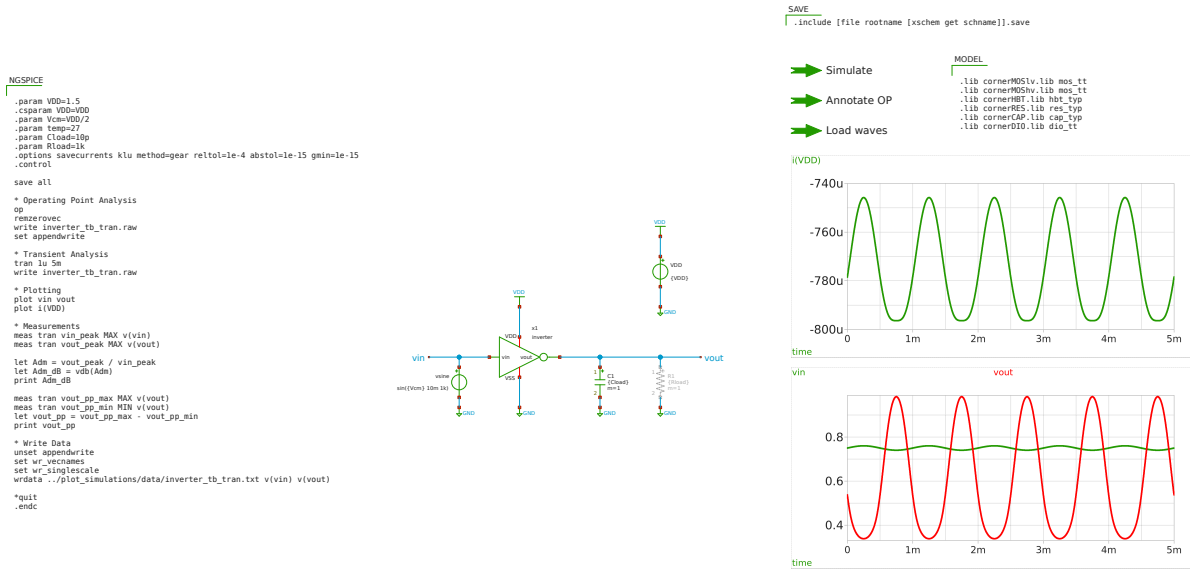

Figure 8: Xschem testbench inverter_tb_tran (single-channel transient response on inverter).
- inverter_tb_tran.sch, single-channel transient response (see Figure 8),